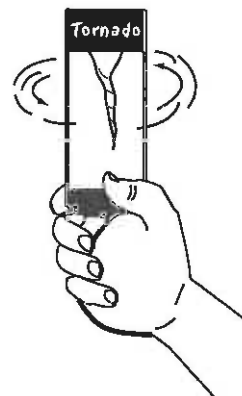

Figure 1.
3. Hold the bottle upright and shake briskly a few times in a circular motion. See Figure 1.